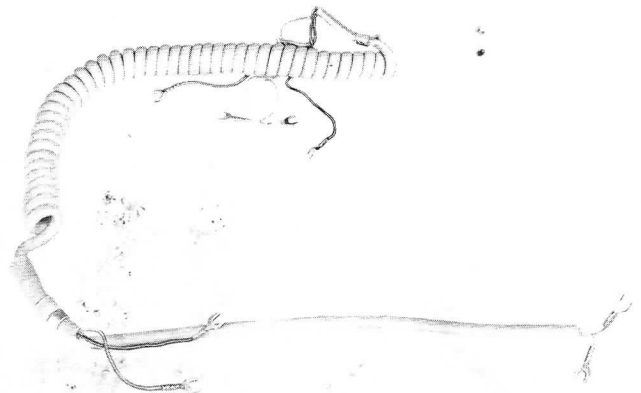
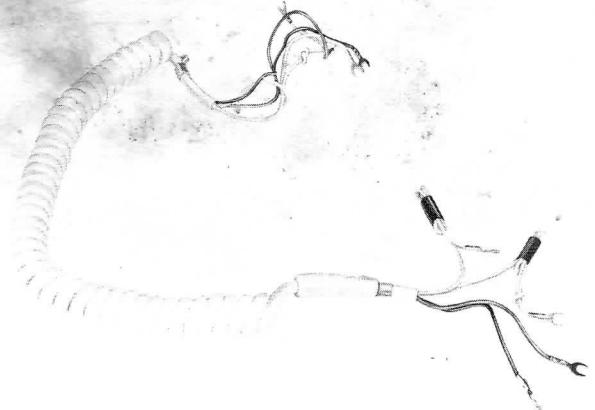

Fig. 33 — H4CJ Cord
Fig. 34 — H4CJ Cord, Modified
† The H4CJ cord (Fig. 33) is modified for use in G6AR, G7AR, and G8A hand sets per Fig. 34 and 7. of this practice.
7.01 When it is necessary to replace the original cord on the G6AR, G7AR, and G8A hand sets, modify the H4CJ cord (Fig. 33) as follows:
- (1) Carefully remove outer plastic covering on two white conductors with diagonal pliers.
- (2) Tone out and identify one conductor. For identifying purposes, loose knots may be tied in both ends of this conductor, designating it green. The other white conductor would then become yellow.
- (3) Loop and tie or tape excessive cordage. (Fig. 34.)